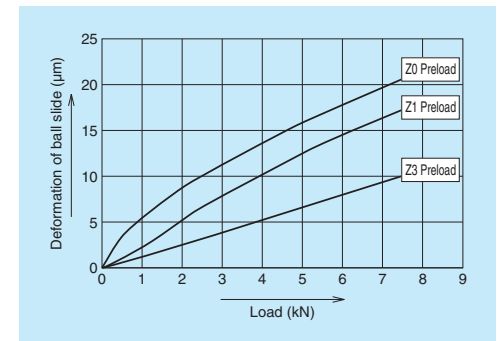

Fig. 3.3 Rigidity of NH35, downward direction load (example)
- **Fig. 3.3** shows the relationship between ball slide deformation and external vertical load under a specified preload. NH35 is used as an example.